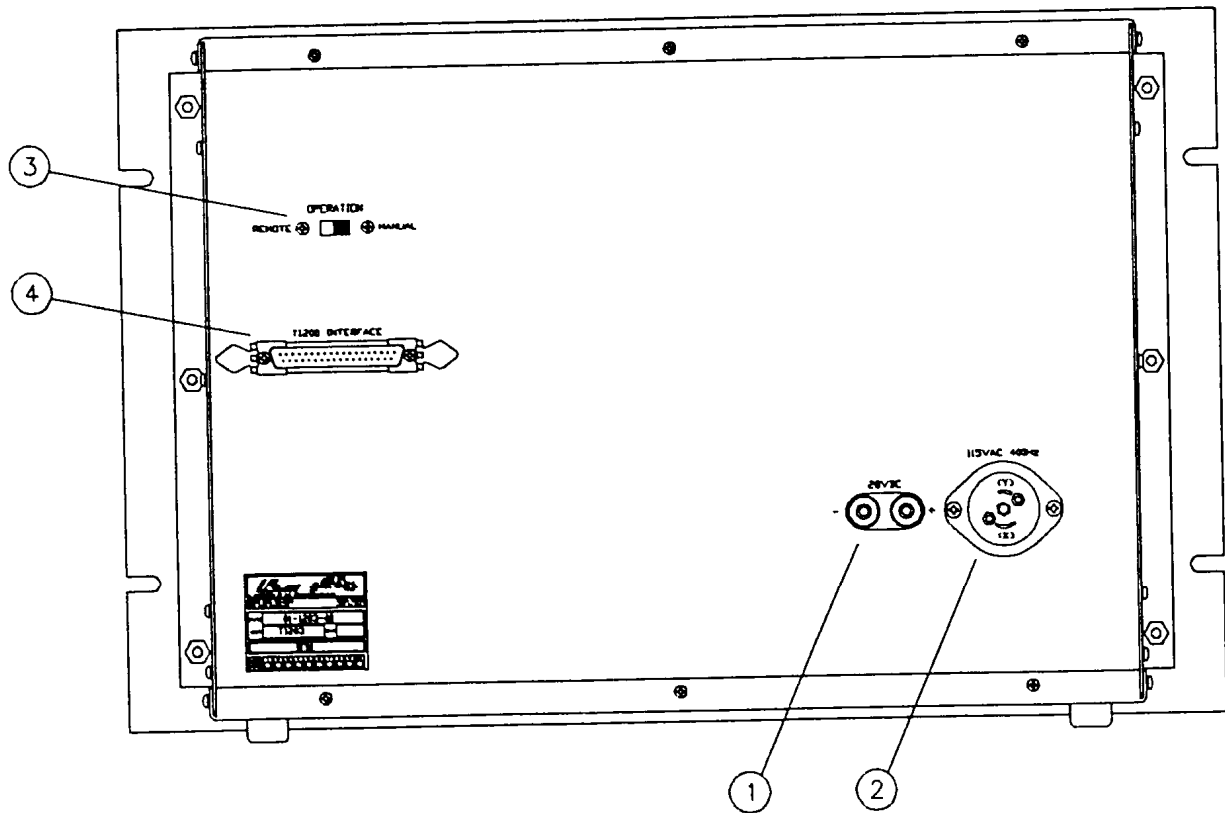

Fig. 3-2: T1203 Controls - Rear Panel
3.2.2 CONTROLS - REAR PANEL (Fig. 3-2)